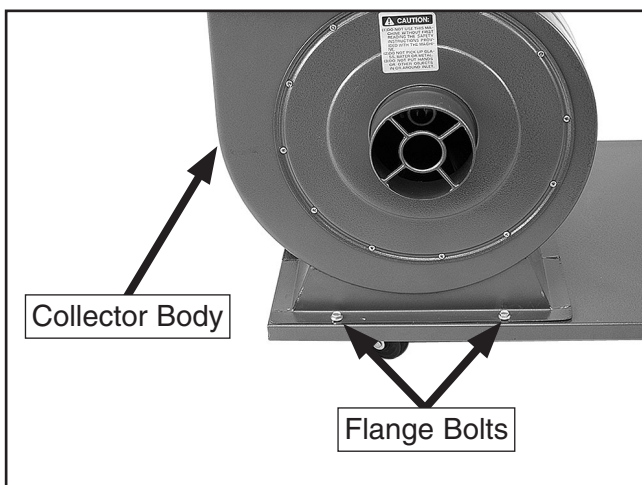

Figure 6. Mounting collector to base.
2. Set the collector body on top of the base plate so the intake portion is near the edge of the base plate and the bolt holes are aligned, as shown in **Figure 6**. Secure the collector body to the base plate with (4) $\frac{5}{16}$ "-18 x $\frac{1}{2}$ " flange bolts.